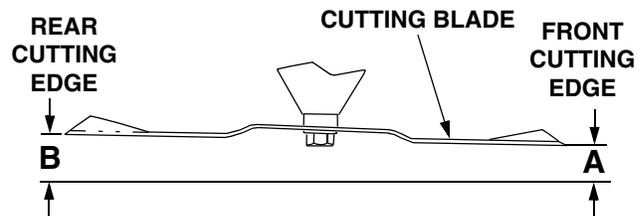

Figure 55
- Refer to Figure 55. Measure and record the distance from the front cutting edge to the ground (measurement A), and from the rear cutting edge to the ground (measurement B), for each of the blades. The front edge of each blade (measurement A) should be lower than its back edge (measurement B) by 1/8 to 1/4 inch.